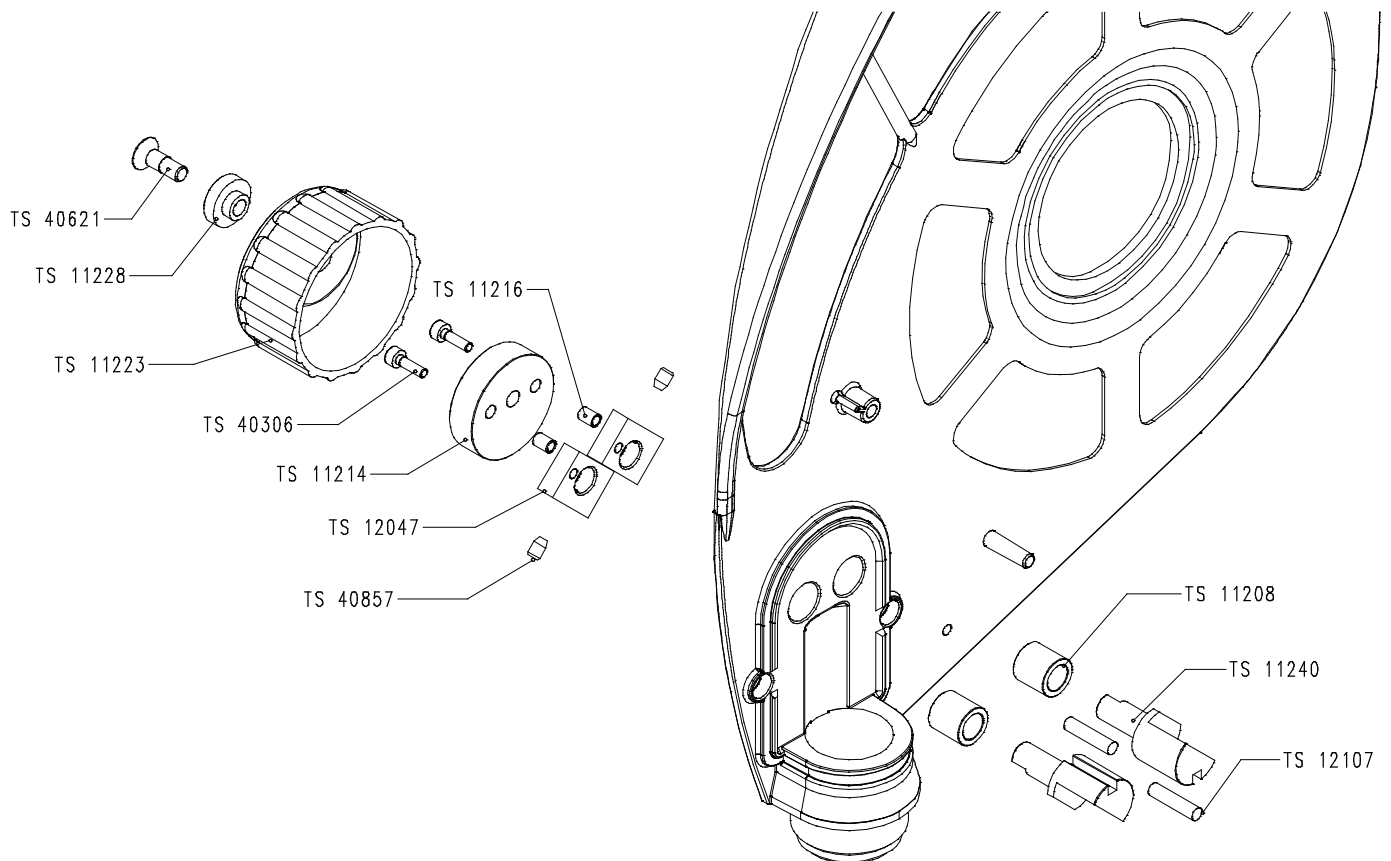

Figure 12-8: tape cleaner, details
- Figure 12-8: tape cleaner, details